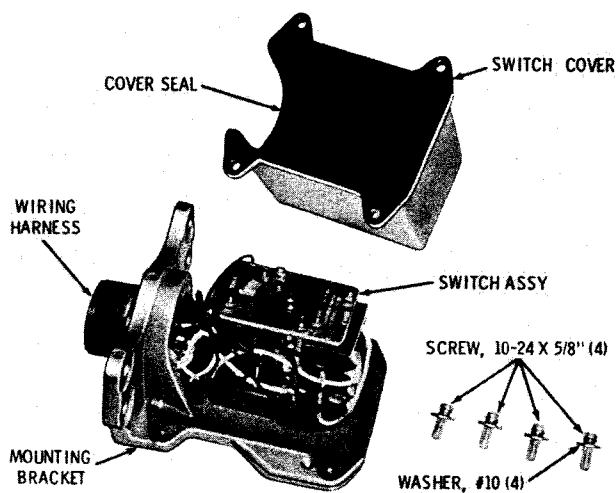

Fig. 4-11. Mounting bracket, switch assembly and cover
(19) Push rotary key 39 from body 8. Remove O-ring 14 from rotary key 39.
(20) If bushing 12 requires replacement, press the bushing from body 8.
(21) Remove four screws and washers that retain the switch cover (fig. 4-11). Remove the cover and cover seal.
(22) Loosen the setscrew that retains the drive adapter on the switch shaft (fig.
(35) Install an SFE 9A fuse into the fuse holder.
(36) Check the circuitry and operation of the shift tower assembly as outlined in paragraph 4-8.
(37) Install the switch cover and cover seal (fig. 4-11). Retain the cover with four 10-24 x 5/8-inch screws and washers.